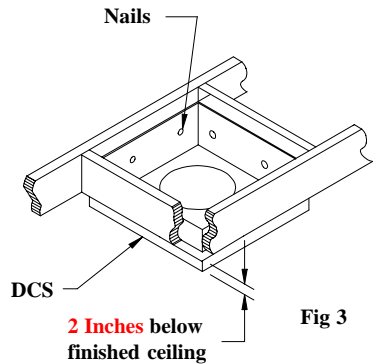

Fig 3
3. Install Support: Slip the **Support Box** into the framed opening from below, as shown in Fig. 3. Nail it to the framing using at least (2) 8-penny nails per side. Insure that the **Support Box** protrudes at least **2 inches** below the finished ceiling.